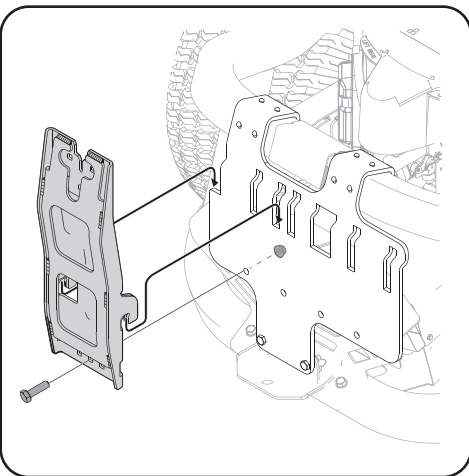

Figure 4-6
- Install the vertical support bracket onto the mounting assembly on the tractor by hooking it over the mounting assembly as shown in Figure 4-6.
- Secure the upright support bracket to the mounting assembly using a hex bolt (710-0376) and flange lock nut (712-04063) from hardware pack 689-01419. See Figure 4-6.